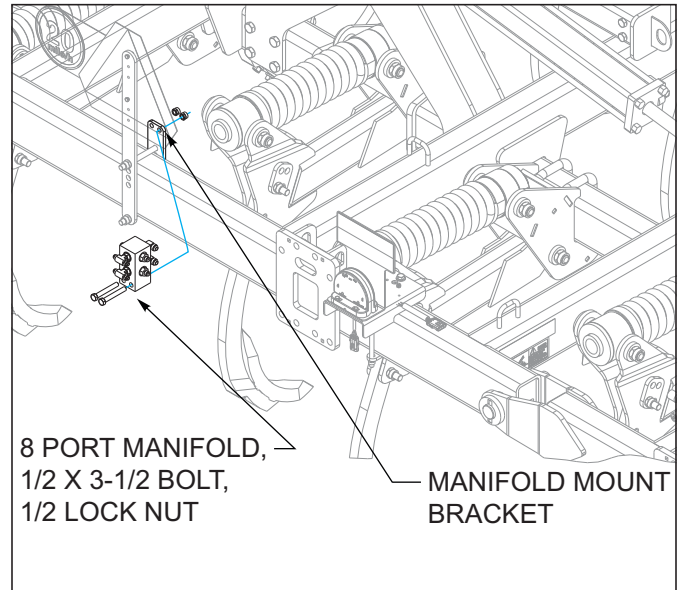

Figure 3-28: 8 Port Manifold Installation
6. On hydraulic Chopper Reel option, install the 8 port manifold to manifold mount with 1/2 x 3-1/2 bolts, 1/2 lock nuts as shown See Figures 3-28.